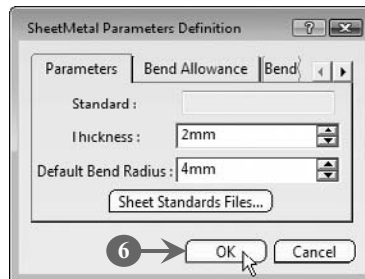

FIGURE 6.5
The **Sheet Metal Parameters Definition** dialog box opens (**Figure 6.5**). This dialog box allows you to set different sheet metal parameters, such as sheet metal thickness and default bend radius, for the sheet metal walls. You can either use the default values for these parameters or specify new values. In our case, we are using the default values for the sheet metal parameters.
6. Click the **OK** button to close the **Sheet Metal Parameters Definition** dialog box, as shown in Figure 6.5: